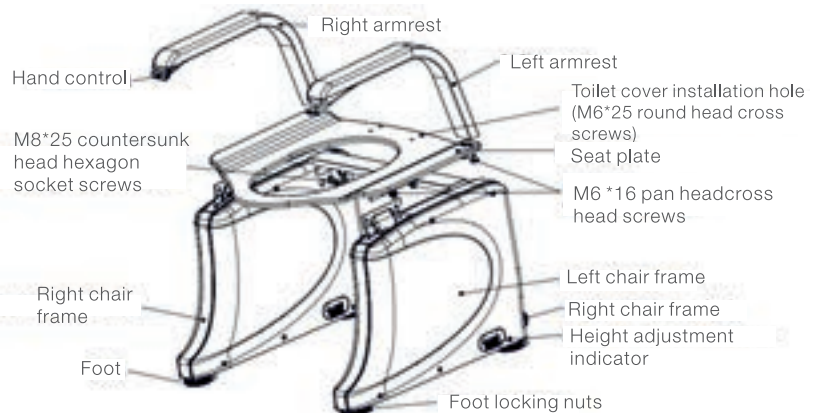

Figure 2-2
Step 3: Fix the left armrest and right armrest on the seat plate with M8\*16 round head hexagon socket screws (4pcs). (Tool: L-type hexagonal wrench), Please refer to figure 2-2.
(1) Fixing the toilet lift and toilet could have better stability, but after power failure during daily cleaning and movement, it is necessary to rise the toilet lift by 5mm before moving.
(2) If not fixing the toilet lift and the toilet, then there is no need to use expansion nuts. After the assembly, it can be placed directly on the toilet for use. For daily cleaning, the product can be moved directly after the power is turned off.